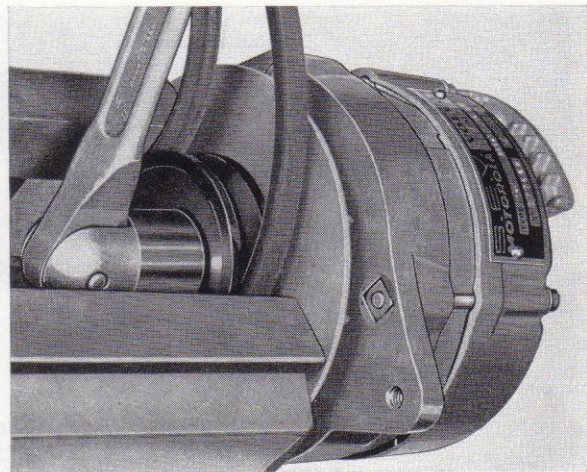

Fig. 25. Removing the pulley nut
2. Fix the pulley with belt in a vice with soft jaws, see Fig. 25.